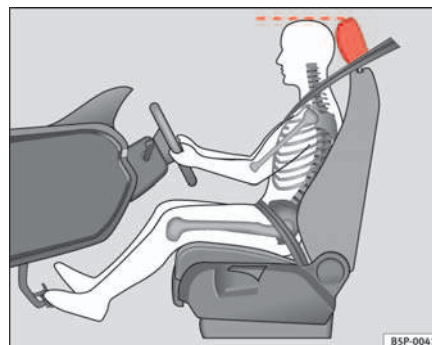

Fig. 2 Proper head restraint position for driver
- Adjust the head restraint so that its upper edge is at the same level as the top of your head, or as close as possible to the same level as the top of your head ⇒ fig. 2.